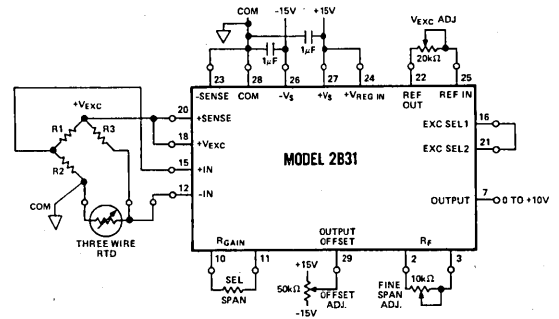

Figure 8. Three-Wire RTD Interface
**Interfacing Three-Wire Sensors:** A bridge configuration is particularly useful to provide offset in interfacing to a platinum RTD and to detect small, fractional sensor resistance changes. Lead compensation is employed, as shown in Figure 8, to maintain high measurement accuracy when the lead lengths are so long that thermal gradients along the RTD leg may cause changes in line resistance. The two completion resistors (R1, R2) in the bridge should have a good ratio tracking ( $\pm 5\text{ppm}/^\circ\text{C}$ ) to eliminate bridge error due to drift. The single resistor (R3) in series with the platinum sensor must, however, be of very high absolute stability. The adjustable excitation in the 2B31 controls the power dissipated by the RTD itself to avoid self-heating errors.